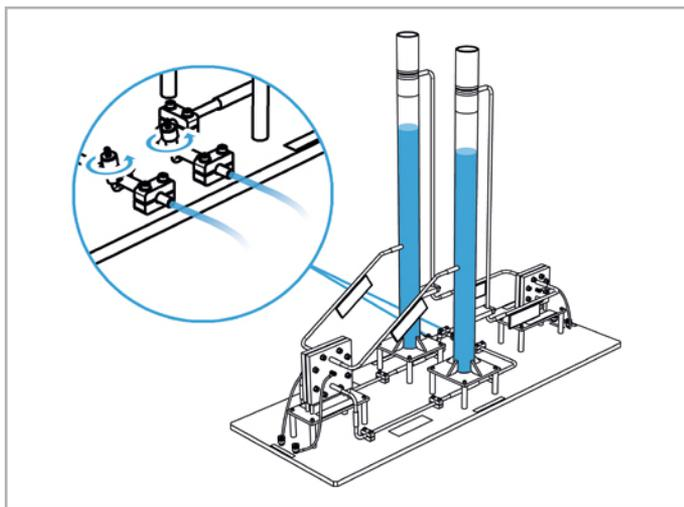

Fig. 5: Emptying the water reservoir
- Drain the water reservoir, as shown in Figure 5. The water must be disposed of correctly.